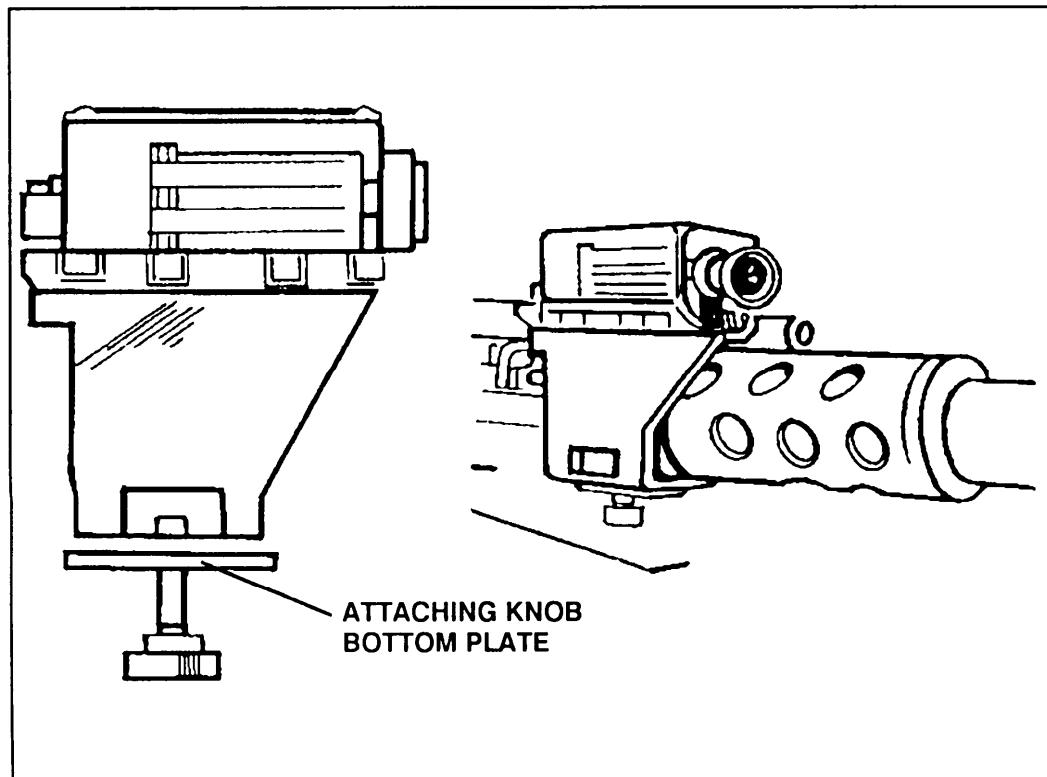

Figure B-5. MILES transmitter attachment.
c. Attaching the Transmitter to the Machine Gun. Attach the machine gun to its mount. Attach the M19 BFA to the machine gun. Unscrew the knob from the side of the transmitter bracket; swing the bottom plate down; and place the transmitter on the barrel support, flush against the receiver. The lip on the back of the mounting bracket must sit behind the barrel cooling bracket. Swing the bottom plate back up against the transmitter mounting bracket and tighten the knob securely with your hand (Figure B-5).